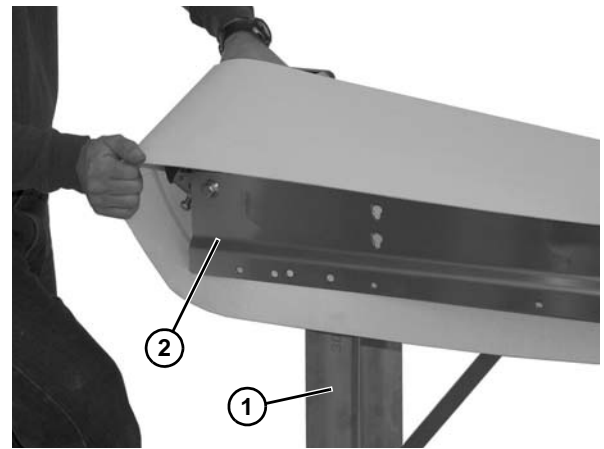

Figure 62
20. Remove the belt from under the stand (**Figure 62, item 1**) and from the conveyor (**Figure 62, item 2**) on both ends.